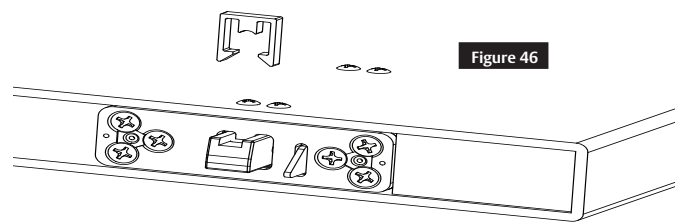

Figure 46
- Remove the bolt retainer clips from the top and bottom latch assemblies. (Figure 46)